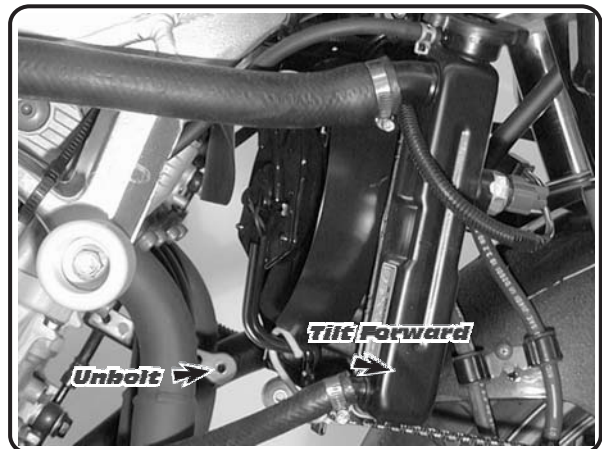

Fig. 2
- 2 Remove lower radiator mount bolt and tilt radiator forward slightly. (See Fig. 2)